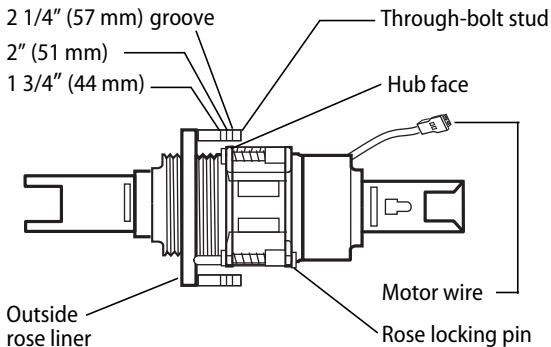

Figure 8 Adjusting the rose liner for the door
- 2 Pull the rose locking pin and rotate the outside rose liner until the proper groove on the through-bolt stud lines up with the hub face. See Figure 8.